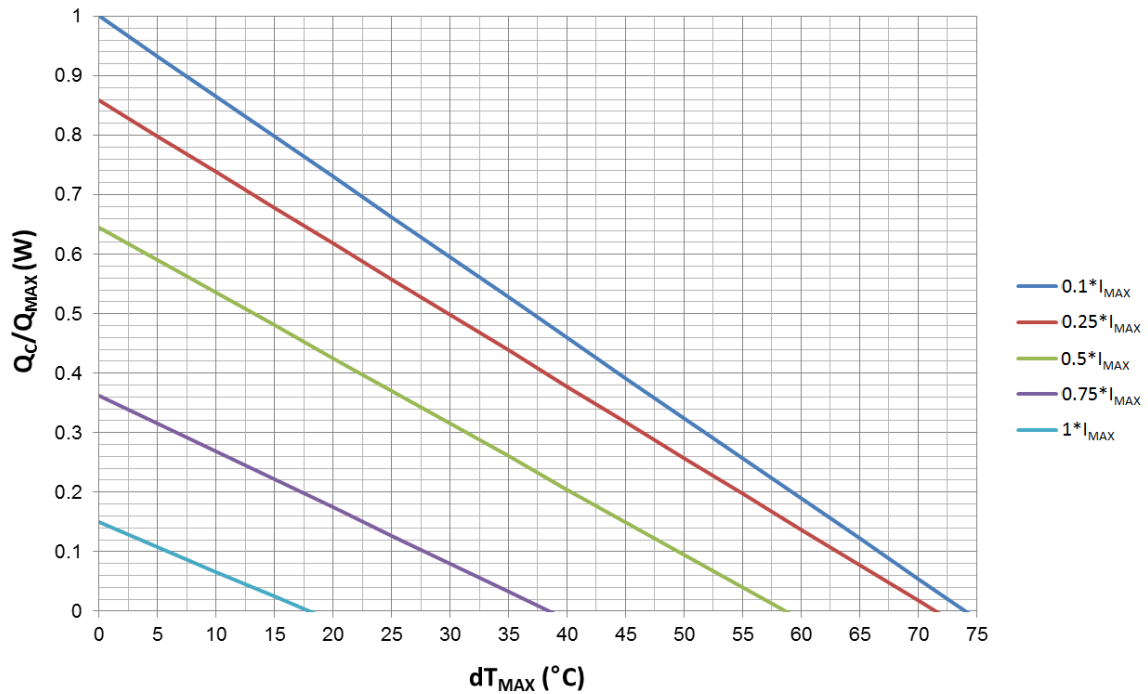
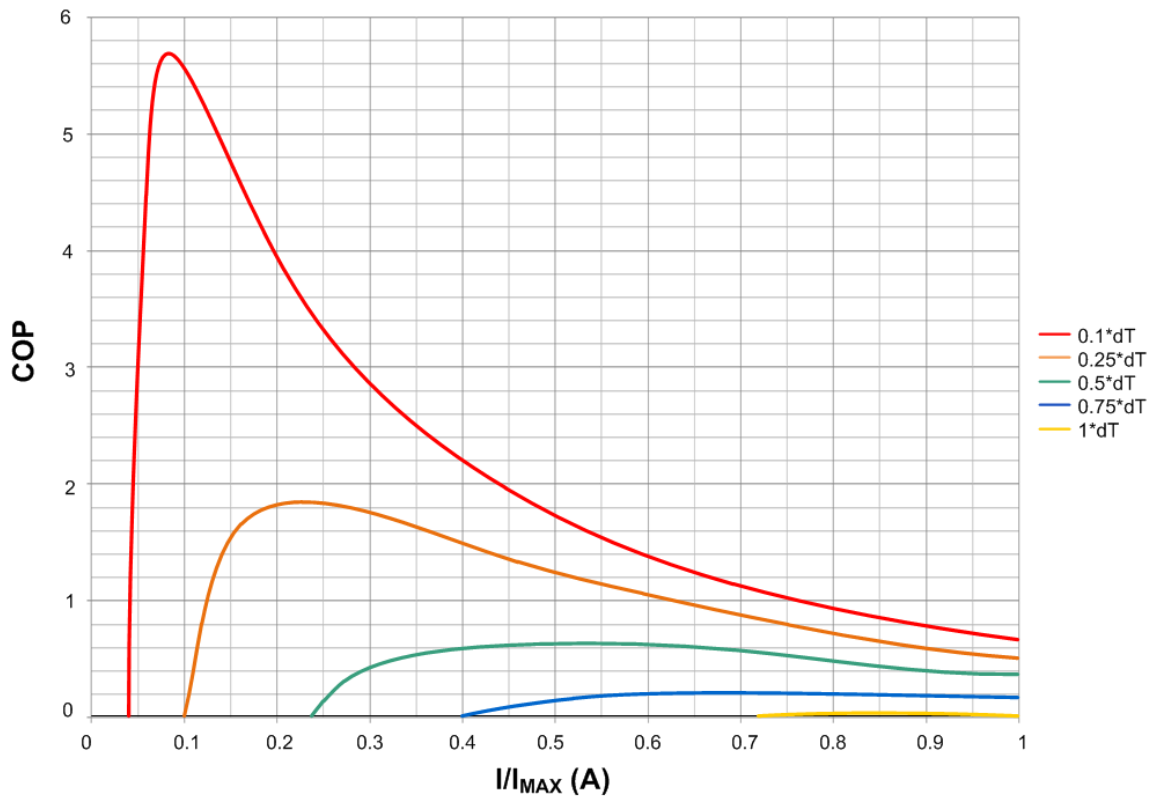

Figure 2. Q_c/Q_{MAX} vs. dT_{MAX}
Figure 5. COP vs. I/I_{MAX}
5. Use the charts provided in Figure 2 to Figure 5, to decide which TEC to use, what is the heat needed to be dumped through the heat sink, what is the heat sink temperature, etc.